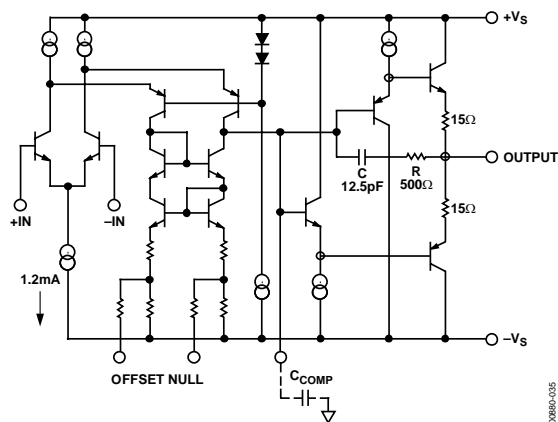

Figure 35. Simplified Schematic
The AD829 is fabricated on the Analog Devices, Inc., proprietary complementary bipolar (CB) process, which provides PNP and NPN transistors with similar  $f_{TS}$  of 600 MHz. As shown in Figure 35, the AD829 input stage consists of an NPN differential pair in which each transistor operates at a 600  $\mu$ A collector current. This gives the input devices a high transconductance, which in turn gives the AD829 a low noise figure of 2 nV/ $\sqrt{\text{Hz}}$  at 1 kHz.
An RC network in the output stage (see Figure 35) completely removes the effect of capacitive loading when the amplifier compensates for closed-loop gains of 10 or higher. At low frequencies, and with low capacitive loads, the gain from the compensation node to the output is very close to unity. In this case, C is bootstrapped and does not contribute to the compensation capacitance of the device. As the capacitive load increases, a pole forms with the output impedance of the output stage, which reduces the gain, and subsequently, C is incompletely bootstrapped. Therefore, some fraction of C contributes to the compensation capacitance, and the unity-gain bandwidth falls. As the load capacitance is further increased, the bandwidth continues to fall, and the amplifier remains stable.